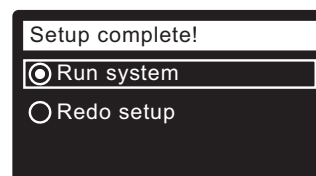

FIG. 25
12. Press the SELECT (O) button. The screen will show "Setup complete!" (See Figure 25).
13. If, at this point, you want to go back and make changes, press the DOWN (▼) button to scroll to **Redo setup**, then press the SELECT (O) button twice to repeat the "wizard" screens.
14. If no changes are desired, make sure **Run system** has a dot next to it (See Figure 25) and press the SELECT (O) button. The unit begins normal operation.